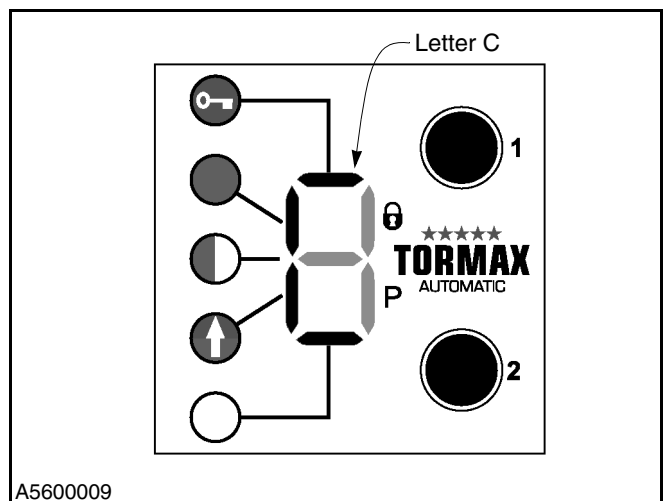

Figure 23
3. Press Key 2 to confirm the letter C. (See Figure 23.)